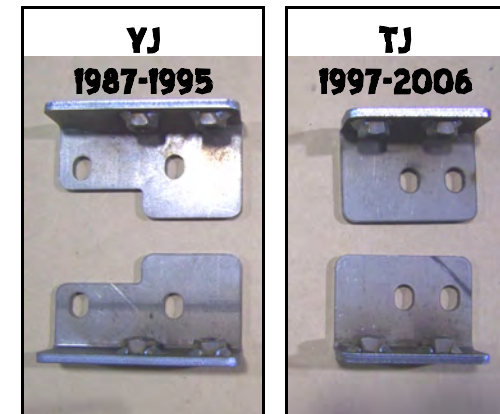

Figure 2
Step 4 - Install proper Bumper Mounting Brackets (See Figure 2) using four (4) Supplied ½" Bolts, Lock Washers and Flat Washers. Brackets are Located with the vertical flanges toward outside of frame rails. DO NOT TIGHTEN BOLTS YET